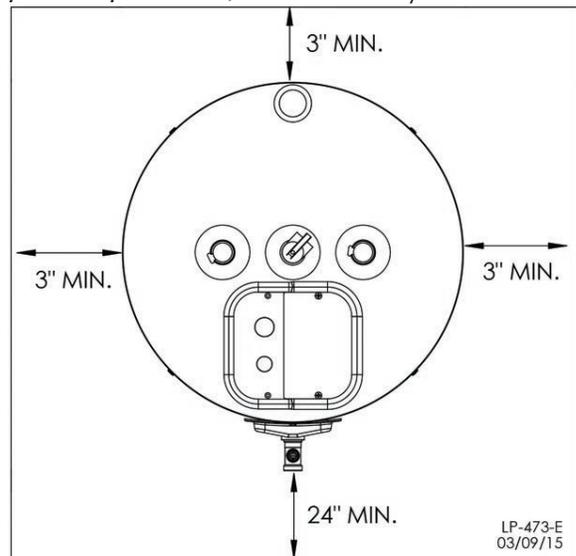

Figure 1 - Recommended Service Clearances
**NOTE:** If you do not provide the minimum clearances shown in Figure 1, it might not be possible to service the water heater without removing it from the space.
If you do not provide the minimum clearances shown in Figure 1, it might not be possible to service the heater without removing it from the space.